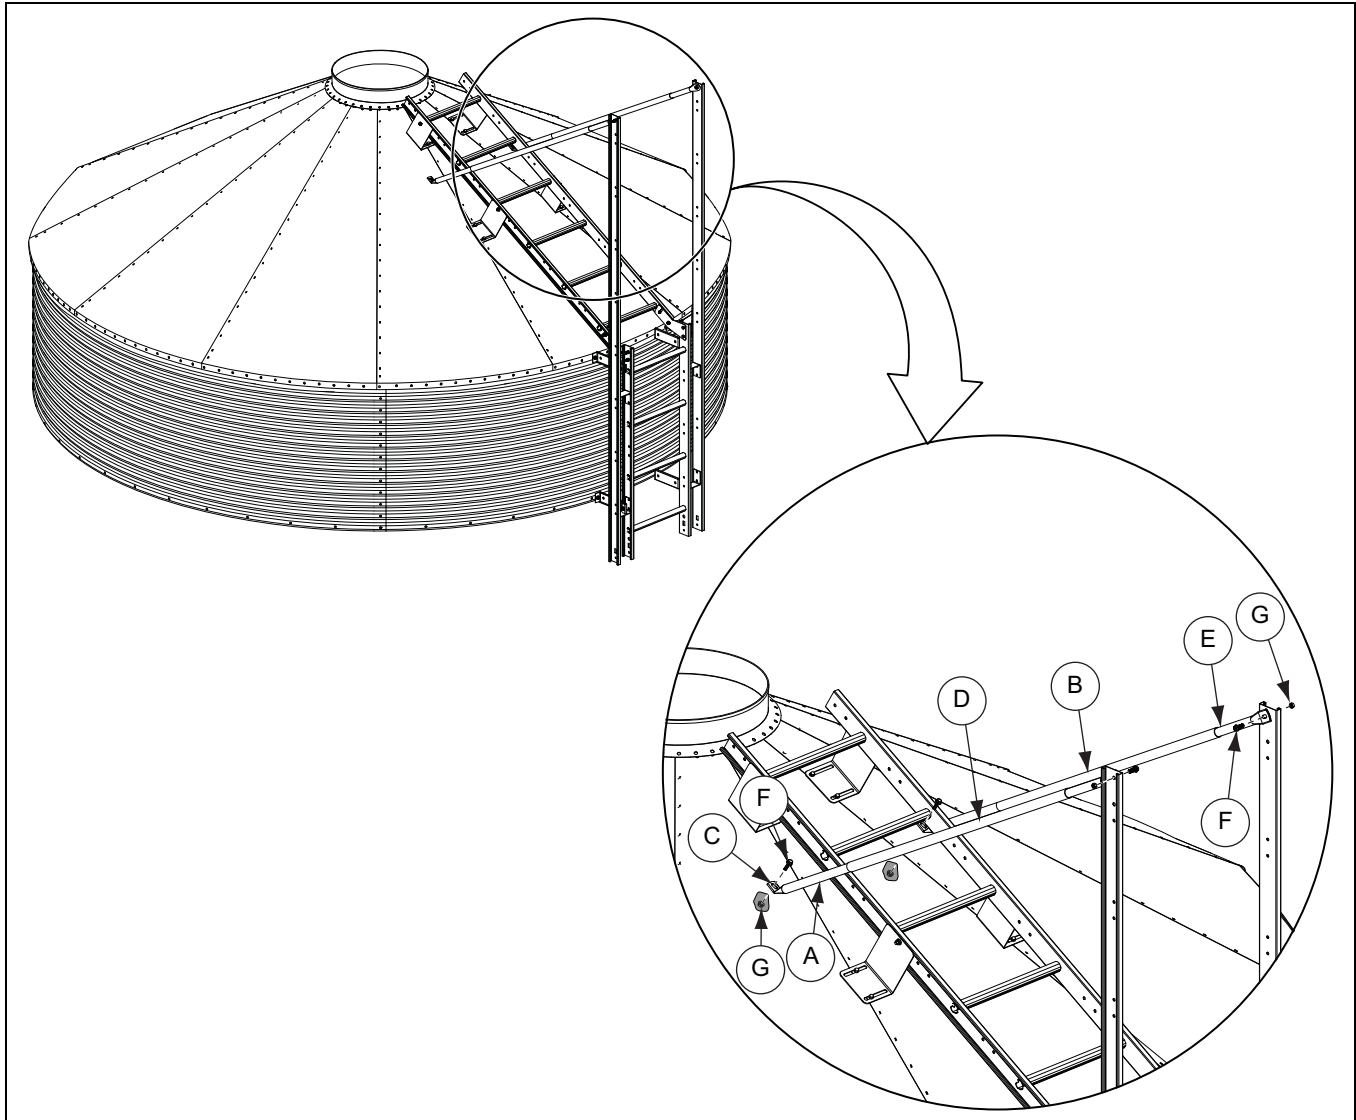

Figure 9B
The adjustable braces must be attached at this time. A large diameter tube and two (2) smaller tubes are used to make up one adjustable brace. Slip the smaller tubes inside the larger tubes and attach one smaller tube to the top of the ladder extension rail. Adjust the other smaller tube so the bottom of the flattened tube reaches the roof panel. Field drill four (4) 5/16" holes through both large and small tubes and bolt together using 1/4" x 1-1/2" bolts and nuts. This prevents the adjustable braces from slipping. (See Figure 9B.)